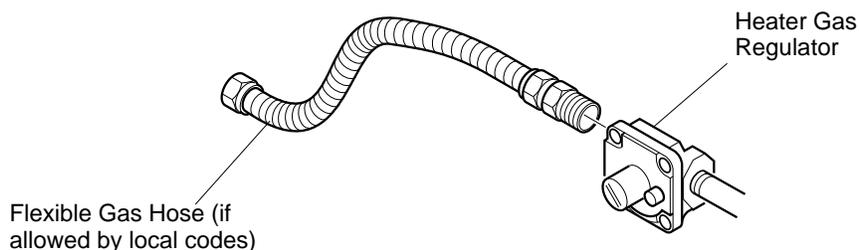

Figure 11 - Attaching Flexible Gas Hose to Heater Gas Regulator
1. Apply pipe joint sealant lightly to male threads of gas connector and install into regulator. Connect approved flexible gas hose to gas regulator of heater (see Figure 11).